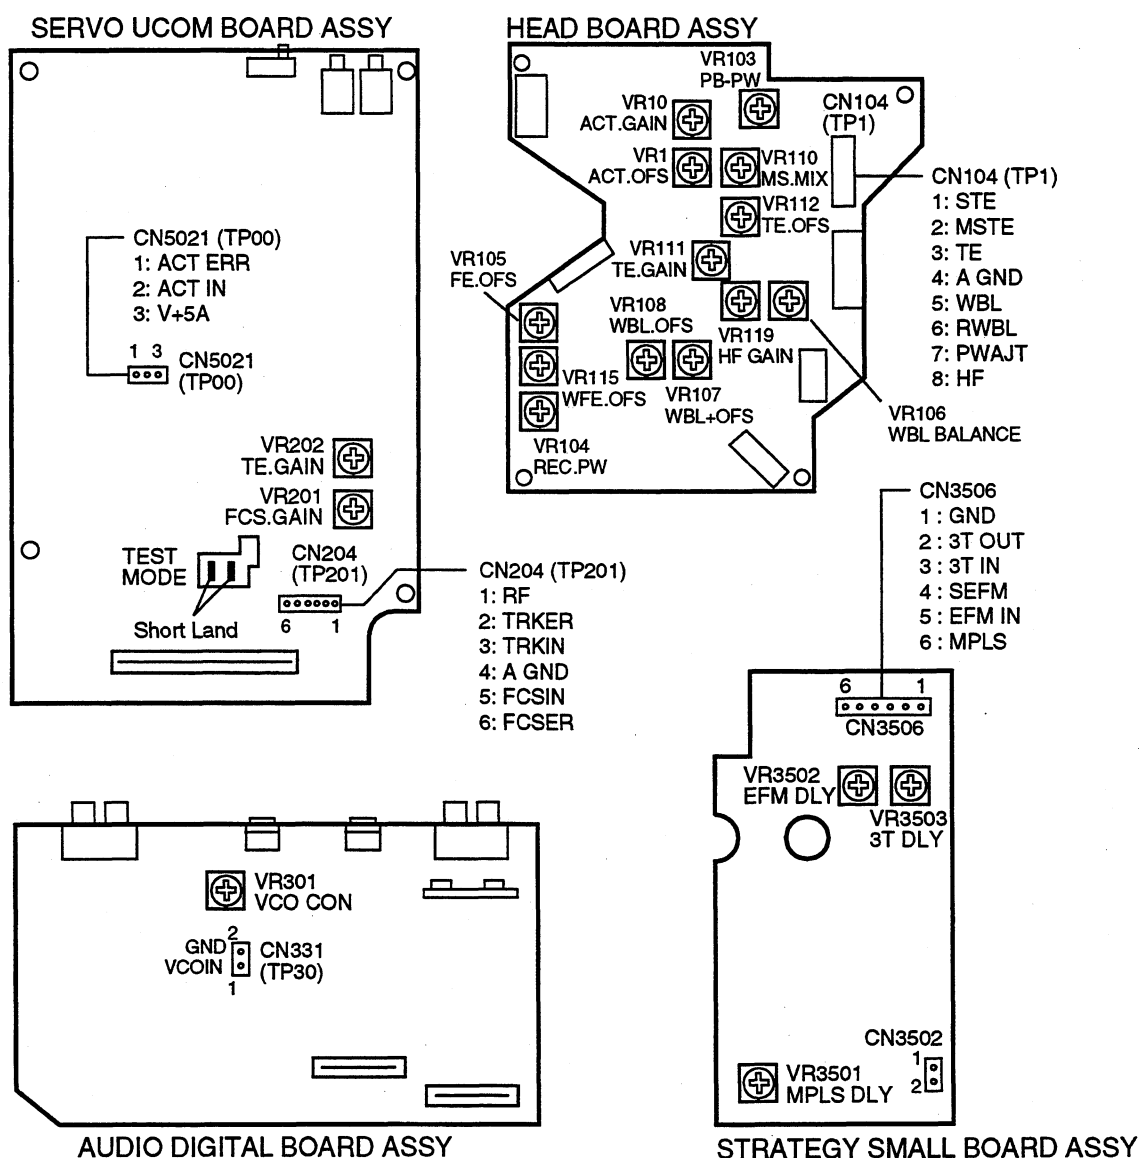

Fig. 1 Adjustment points
- (1) Unplug the power cord from the AC socket.
- (2) Short the test mode short land. (See Fig. 1.)
- (3) Plug the power cord back into the AC socket.